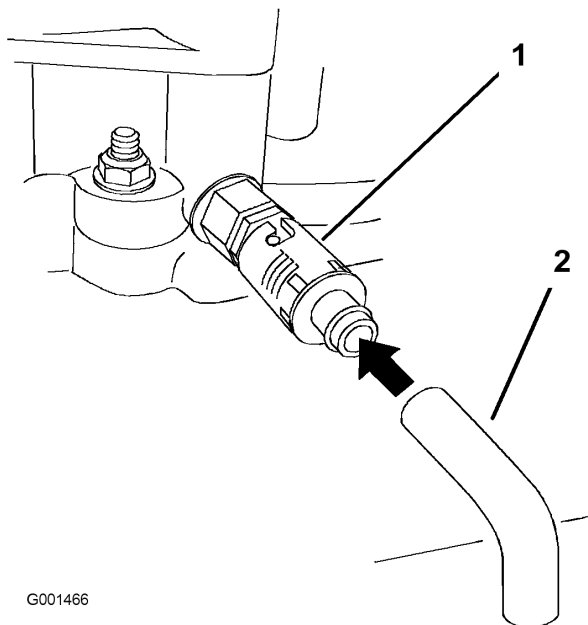

Figure 21
6. Place a pan below the drain hose. Rotate oil drain valve to allow oil to drain (Figure 21).
8. Remove the drain hose (Figure 21).